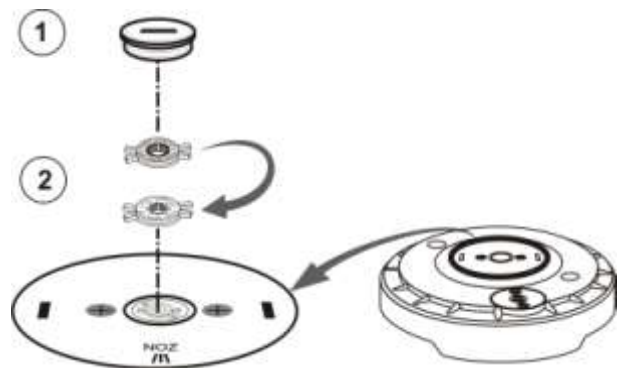

Figure 4 D55 Series two-sided Adjustment Disk with Arc Tabs.
3. Remove the Retract Spring from the Sprinkler well (3) to access the Nozzle tip.
4. Rotate and pull the Riser Unit upward to extract it from the Sprinkler body (4); be careful not to displace the loose Adjustment Disk inside the Nozzle. Set the disk aside for reassembly with new Riser unit. Refer to Figure 4.